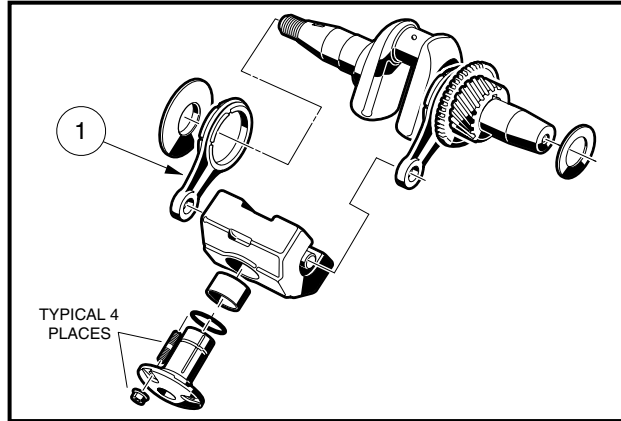

Figure 13-78 Inspect Link Rod
**NOTE:** Do not remove the link rod on the PTO (power take-off) side unless link rod on the opposite end needs replacement. The crank-gear is very tightly fitted to the crankshaft so that it can transfer engine torque to the camshaft (which also functions as a PTO shaft) (**Figure 13-78, Page 13-38**). Ignore Crankshaft and Counterbalance Disassembly (Steps 2 through 6, page 13-36), if the link rod opposite of the PTO side passes inspection (**Figure 13-78, Page 13-38**).